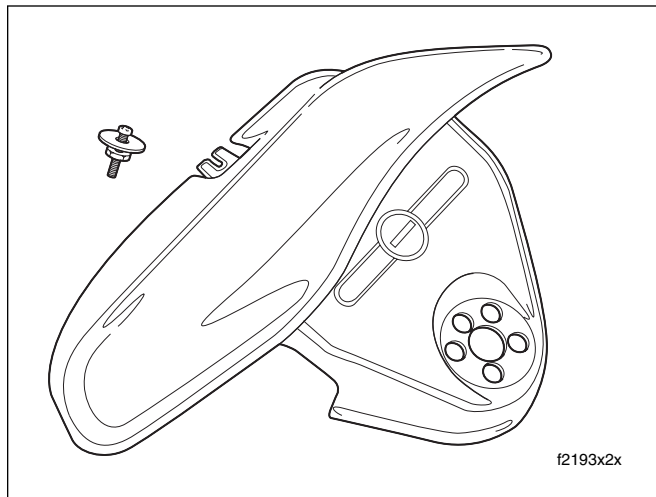

Figure 2-187. Handlebar Clamp Shroud/Wind Deflector and Screw Assembly
7. Raise handlebar clamp shroud/wind deflector and remove from motorcycle. See Figure 2-187.
6. If disassembled, assemble screw assembly as shown in Figure 2-187.